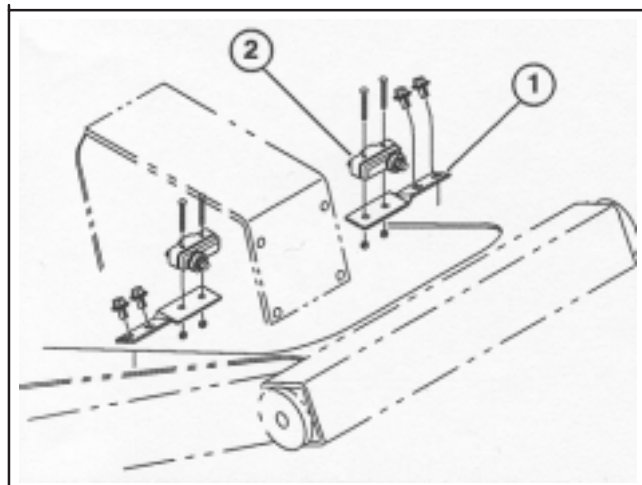

Figure 4
11. Mount a micro switch to each switch strap with (2) machine screws and nuts. Position switches on left and right straps as shown in figure 4.
12. Loosely secure appropriate switch strap to each side of floor plate with (2) 1/4-20 x 1/2" lg. washer head capscrews. Micro switch buttons should align with rear of brake levers.